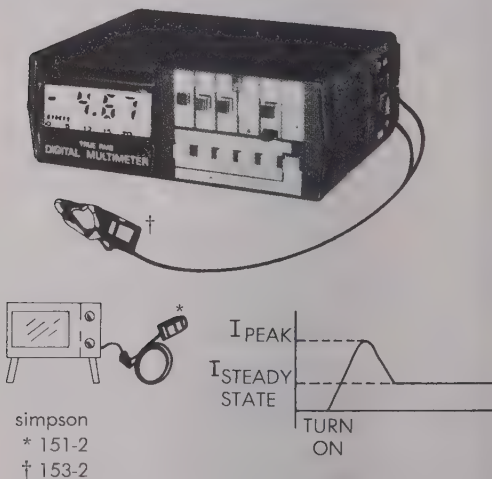

Figure 6-3. In-Rush Current Measurement
6.6.2 As an example of the in-rush current measurement application: suppose that a television set, which draws 1 ampere when operating, is to be checked for peak in-rush current to make certain that a replacement power switch is capable of handling the surge. Since the in-rush current is likely to be over two amperes, the limit of the 467 current measurement capability, a Simpson 153-2 Amp-Clamp will be used (current range from 2 amps to 200 amps). The setup required is shown in Figure 6-3.